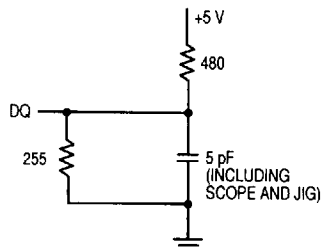

Figure 1B
6. Transition is measured ± 500 mV from steady-state voltage with output load of Figure 1B. At any given voltage and temperature, tKHQZ is less than tKHQX, tPOEHQZ is less than tPOELQX for a given device, and tSOEHQZ is less than tSOELQX for a given device.
4. Transition is measured  $\pm 500$  mV from steady-state voltage with output load of Figure 1B. At any given voltage and temperature,  $t_{KHQZ}$  is less than  $t_{KHQX}$  for a given device.
6. Transition is measured  $\pm 500$  mV from steady-state voltage with output load of Figure 1B. At any given voltage and temperature,  $t_{KHQZ}$  is less than  $t_{KHQX}$ ,  $t_{POEHQZ}$  is less than  $t_{POELQX}$  for a given device, and  $t_{SOEHQZ}$  is less than  $t_{SOELQX}$  for a given device.
3. Transition is measured  $\pm 500$  mV from steady-state voltage with output load of Figure 1B. At any given voltage and temperature, tPOEHQZ is less than tPOELQX, tSOEHQZ is less than tSOELQX, and tKHQZ is less than tKHQX for a given device.